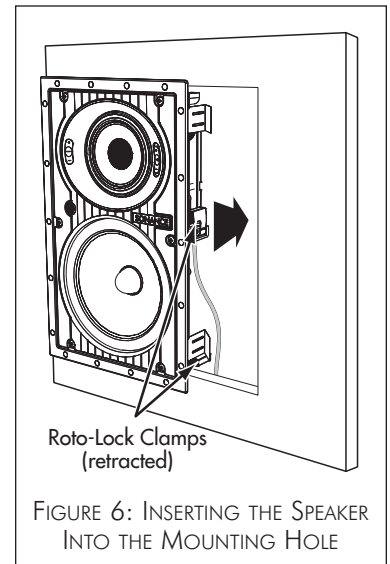

FIGURE 6: INSERTING THE SPEAKER INTO THE MOUNTING HOLE
4. Make sure all the Roto-Lock clamps are retracted so that they are tucked within the mounting hole's border. Insert the speaker into the hole in the wall (*Figure 6*). The Roto-Lock system can accommodate a maximum wall material thickness of 1¼" (32mm).